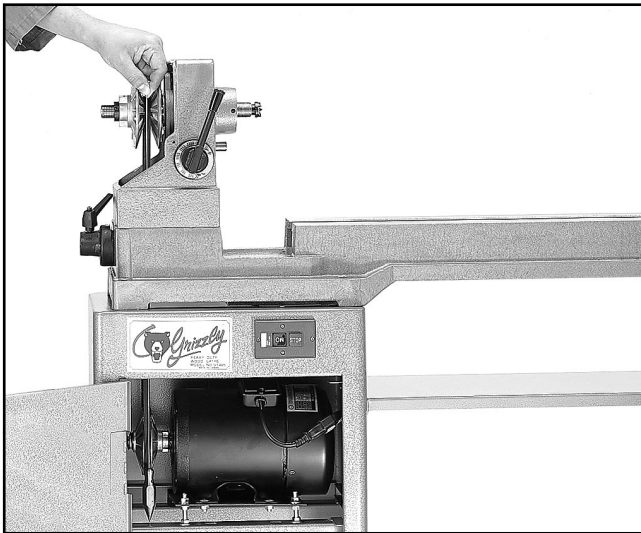

Figure 8. Using plumb bob for pulley alignment.
8. To align the pulleys, set the speed control lever mid-way between high and low so the upper and lower pulleys are spread approximately the same amount. Ensure that the lathe is sitting level. Use a plumb bob to check the side of the pulleys in relation to each other. **See Figure 8.**